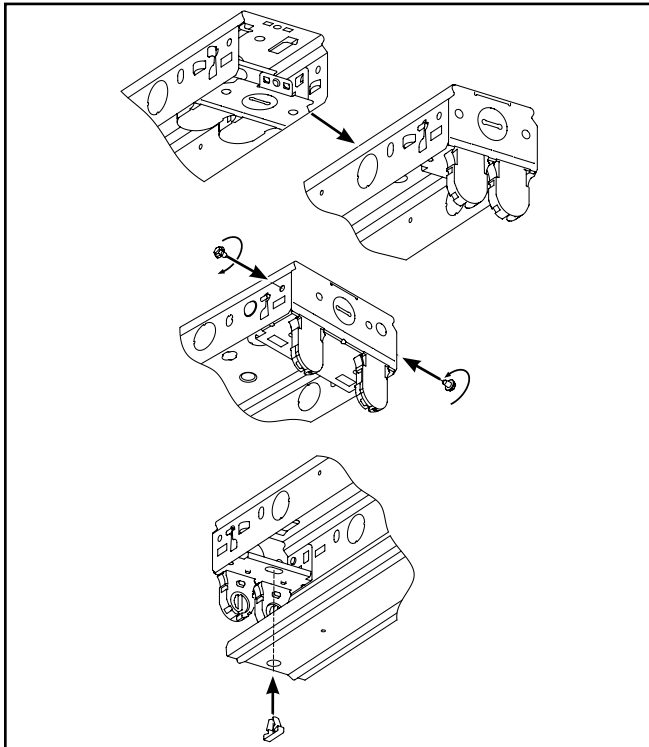

Figure 1.
1. Flip socket track in place (Figure 1).